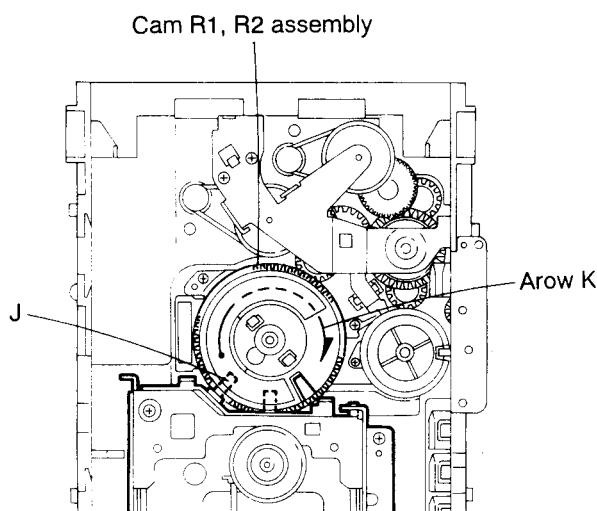

Fig. 5-33
■ Removing the CD mechanism (See Figs. 5-33 and 5-34)